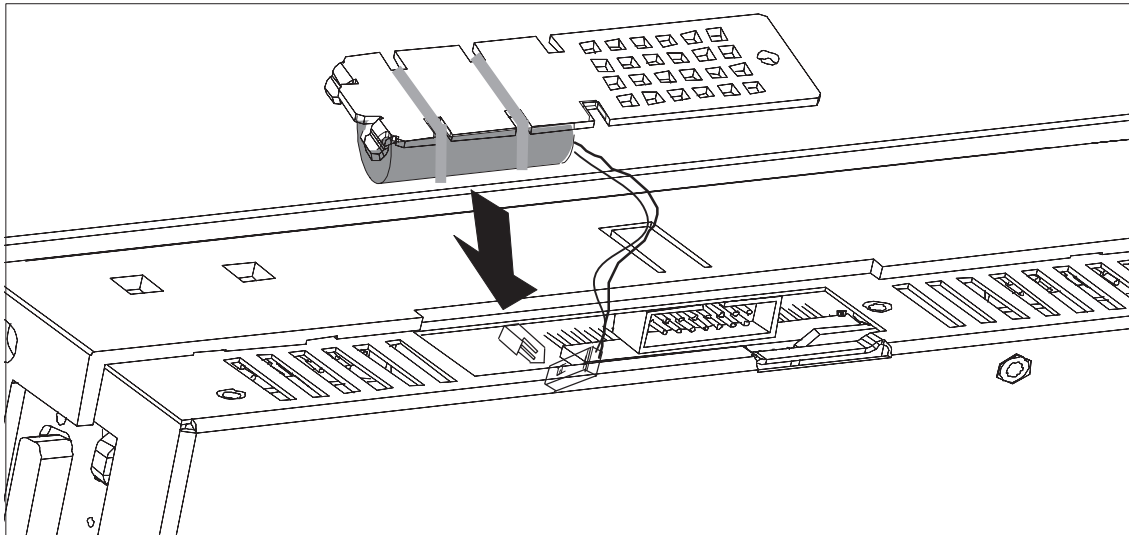

Figure 11-3 Inserting the Backup Battery
3. Unplug the battery connector from the old backup battery (see Figure 11-3).
4. Loosen the cable ties with which the battery is attached to the cover (see Figure 11-3).
6. Plug the battery connector of the new battery into the two-pin plug connector. The battery connector is coded to prevent it being plugged incorrectly (see Figure 11-3).